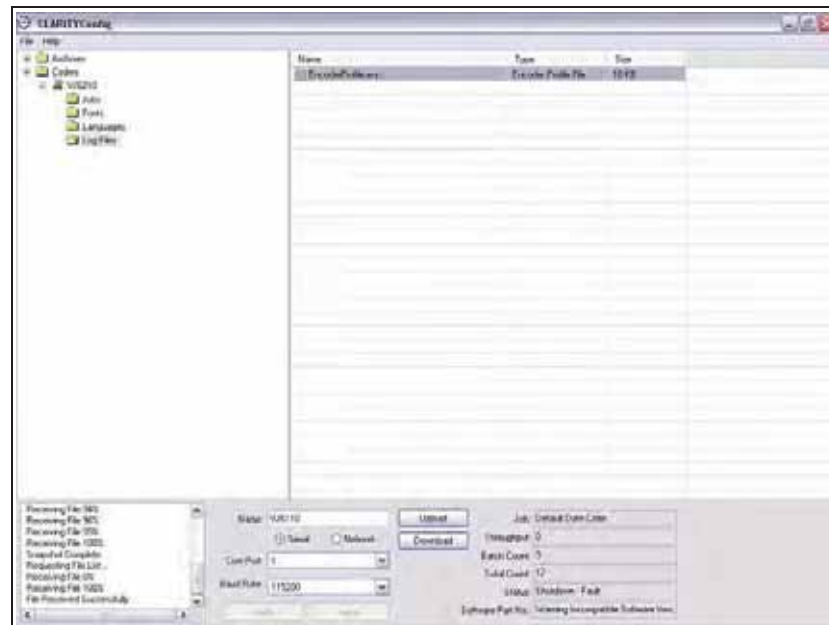

Figure 4-18: Encoder Profiles - Log Files
- 3 To access this file, select Log Files folder from new coder as shown in Figure 4-18.